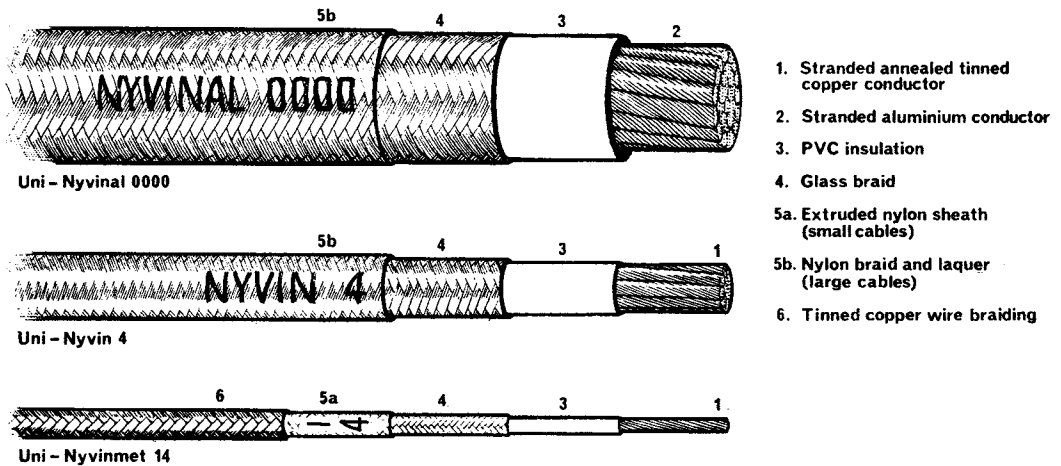

Fig. 1. Nyvin cables
b. Nyvin. Two grades of nyvin cables are in general use in the service. Type A will withstand temperatures up to 105°C and has the name printed in red. Type B will operate up to 90°C and has the name printed in black. All aluminium cored cables in service use are type B. The number printed on the nylon braided sheath gives the conductor size (AWG). They are flame resistant and are not affected by petrol, oils or hydraulic fluids. The maximum working voltage is 600 volts r.m.s. at 1600 Hz. Construction details of various cables in the range are shown in Fig. 1.